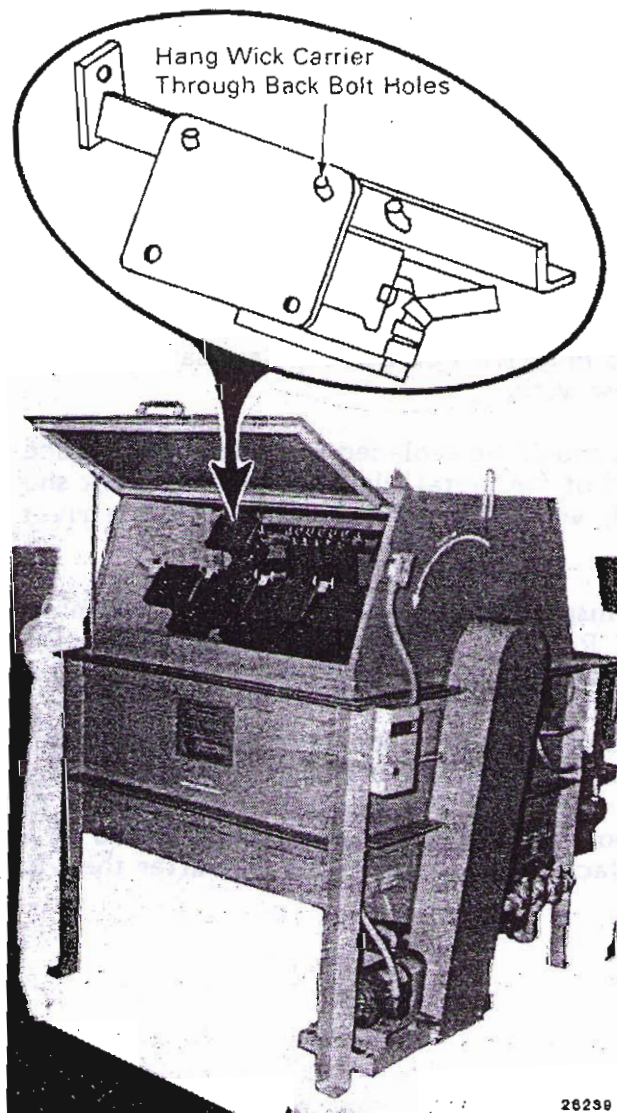

Fig. 19 - Wick Lubricator Cleaning Machine
1. Place wick lubricator and carrier in "ferris wheel" cleaning tank as shown in Fig. 19.